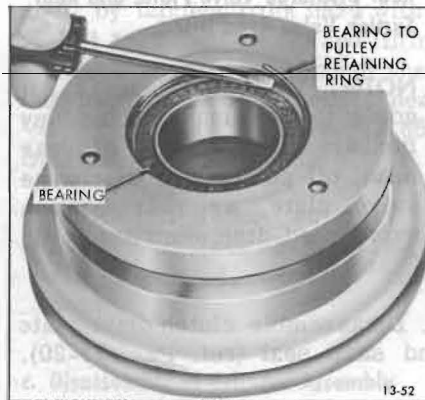

Figure 13-52—Removing Bearing Retainer Wire
4. Withdraw bearing to pulley retaining ring with a small screwdriver (see Figure 13-52).
3. Lock bearing in position with bearing to pulley retainer ring (see Figure 13-52).